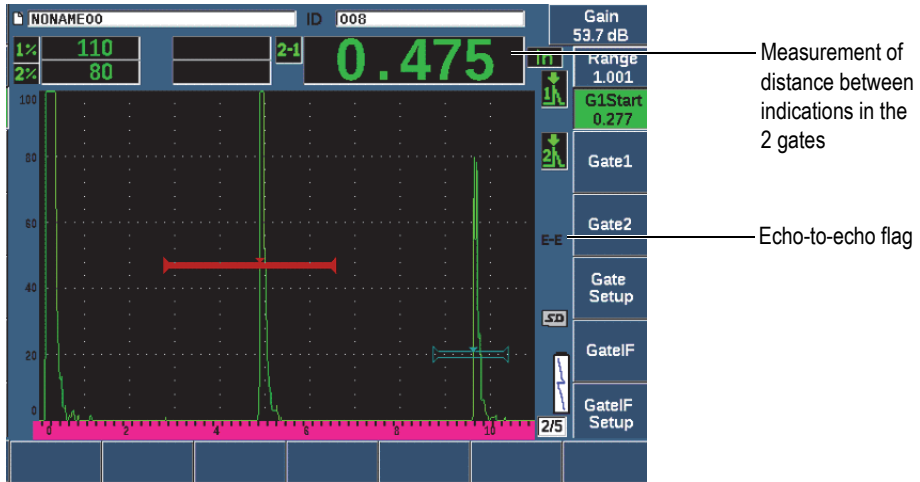

Figure 7-7 Echo-to-echo measurement example
2. As shown in the example of Figure 7-7 on page 143, position gate 1 over the first echo to detect, and then position gate 2 over the second echo to detect.